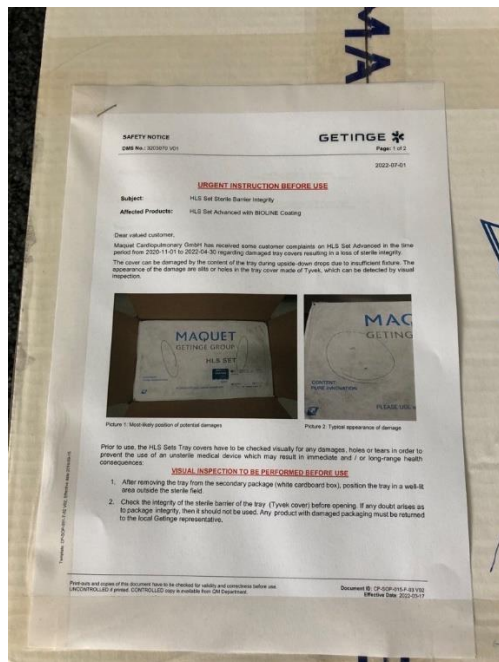

Figure 7: Attachment affixed by SSU to every white box
- Please attach the provided Field Safety Notice for Customer to all affected products in your stock, prior to sending them to the end customers. If this was already done by your Getinge Representative (see figure 7), you do not need to do it.